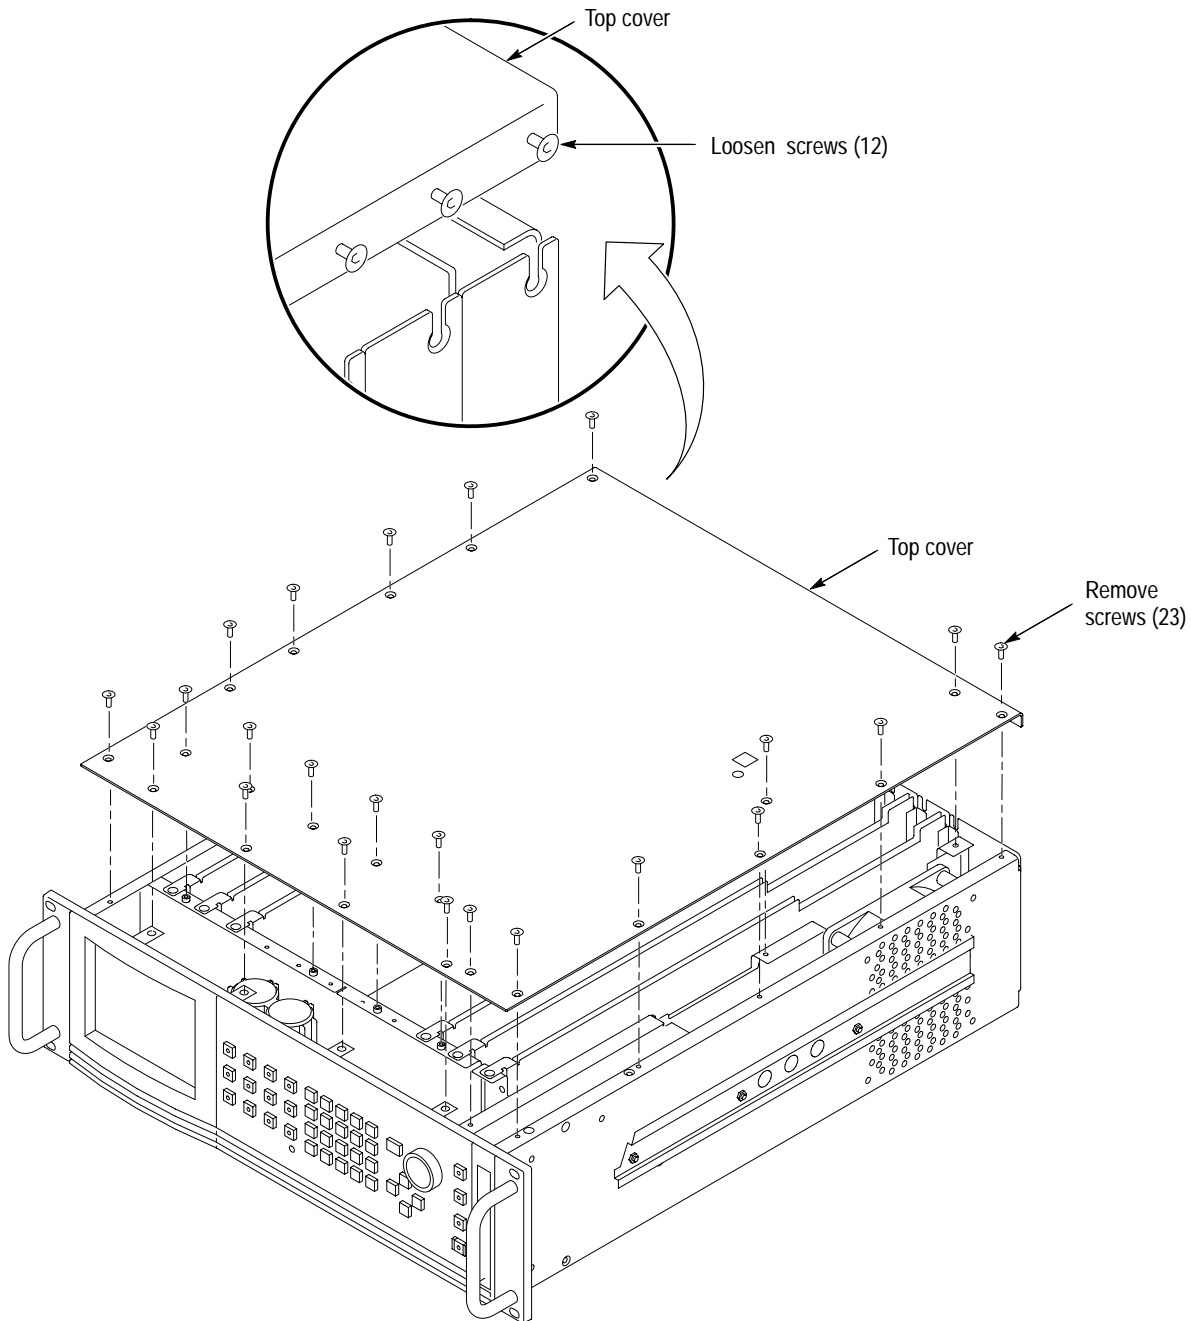

Figure C-2: Top cover removal
3. Referring to Figure C-2, remove or loosen all screws to remove the top cover.
3. Remove all top-cover screws and remove the top cover. See Figure C-2 on page C-3.